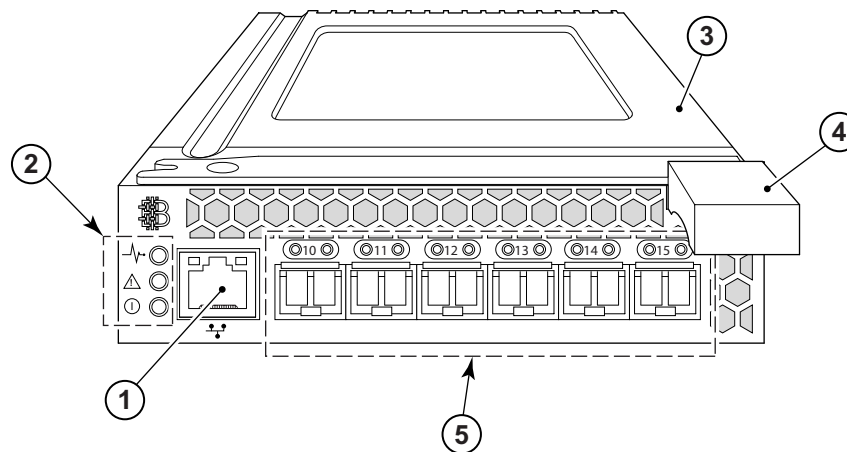
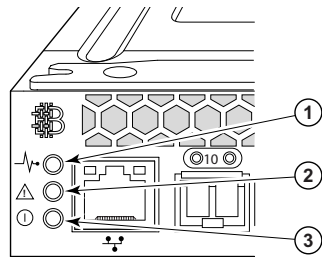

Figure 1-1 Port Side of the SilkWorm 4016
Figure 1-2 Nonport LEDs
Externally accessible ports and LEDs are on the port side of the switch. The port side faces out when the switch is inserted into a . Figure 1-1 details the switch’s port side. For a complete description of the locations and interpretations of these LEDs, see “Interpreting LED Activity” on page 4-4.
The nonport (switch status) LEDs, shown as item 2 of Figure 1-1, display switch-level information as shown in Figure 1-2.